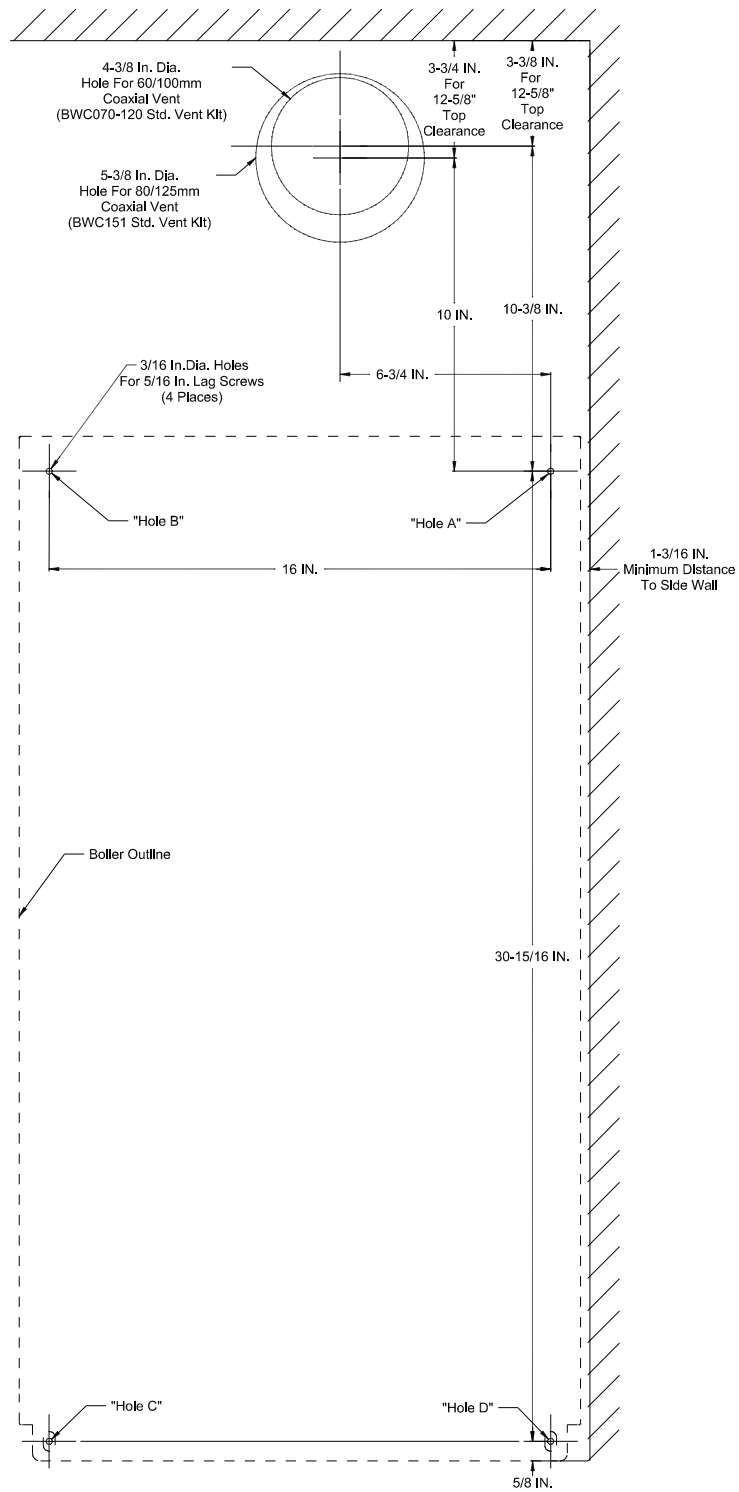

Figure 5.1 Wall Mounting Hole Locations
- 5) Once a suitable location has been selected for the boiler, and any needed modifications have been made to the wall, use Figure 5.1 to locate holes "A" and "B". Make sure that the horizontal centerline of these holes is level. Holes "C" and "D" may also be drilled at this time or after the boiler is hung on the wall. If the $\frac{5}{16}$ " x 2" lag screws are used, drill $\frac{3}{16}$ " pilot holes.